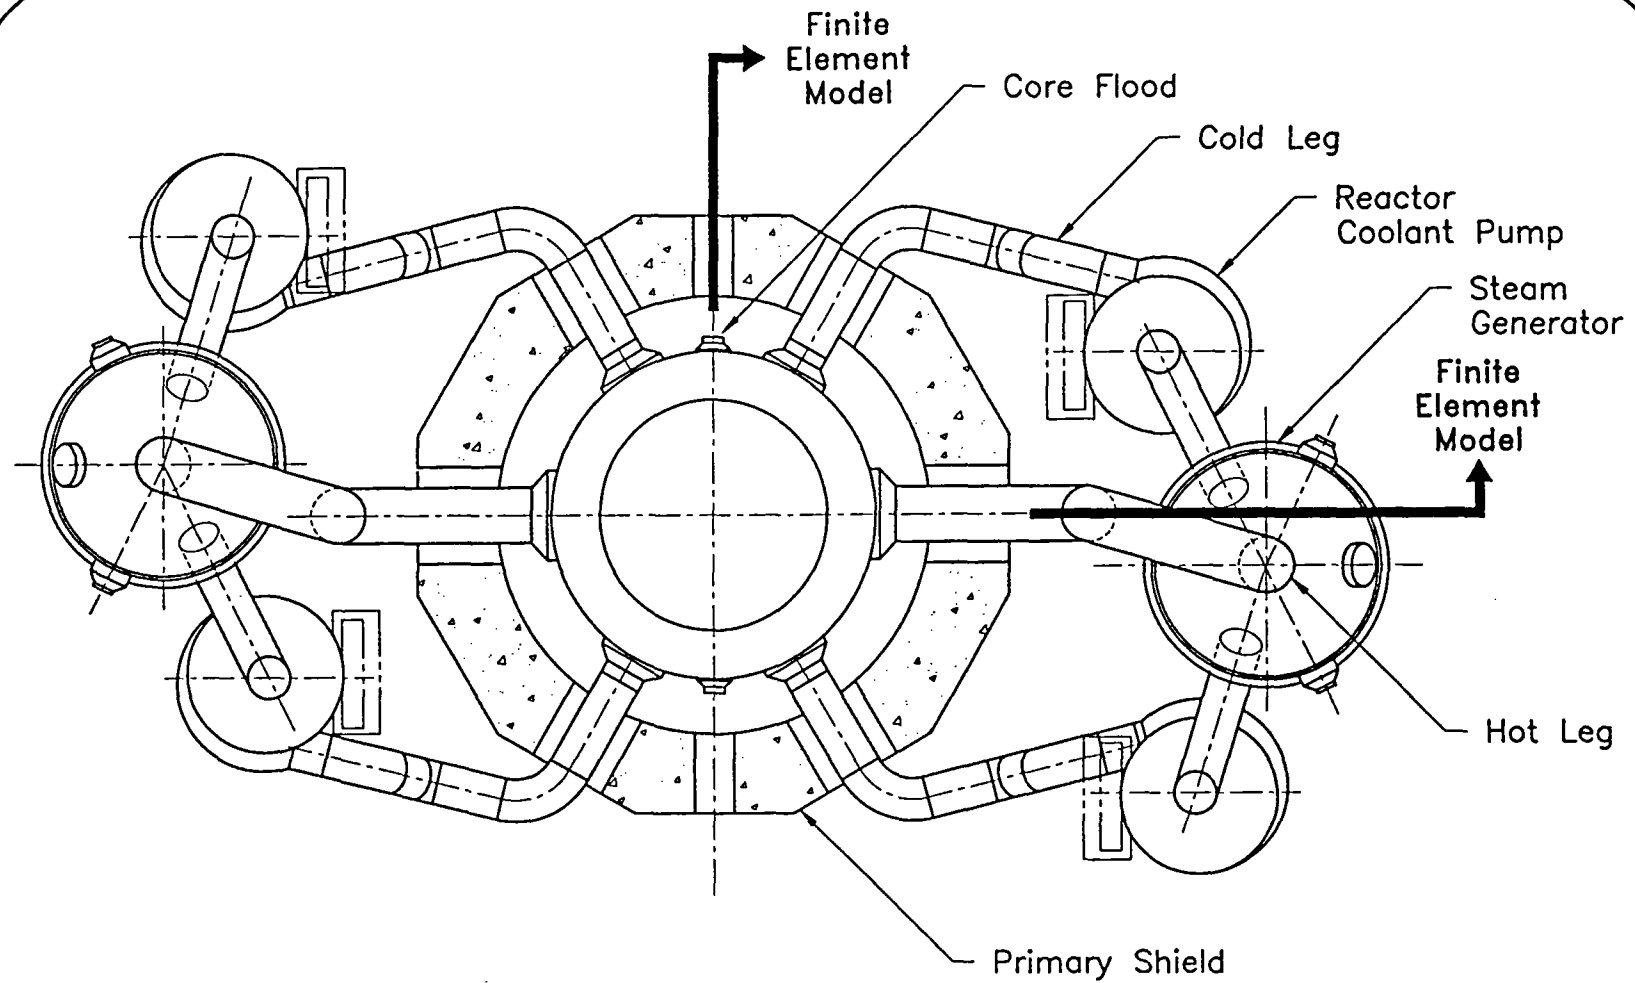

Figure 4. Midland NSSS – Plan
- Model 1/4 of circumference of RPV (Figures 4 and 5).